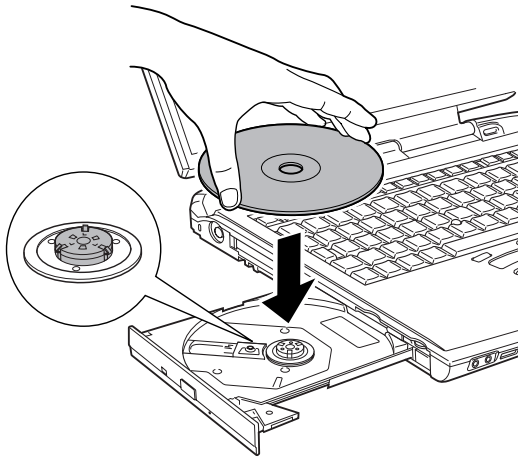

Figure 4-8 Inserting a CD
**NOTE:** When the drawer is fully opened, the edge of the computer will extend slightly over the CD tray. Therefore, you will need to turn the CD at an angle when you place it in the tray. After seating the CD, however, make sure it lies flat, as shown in figure 4-8.